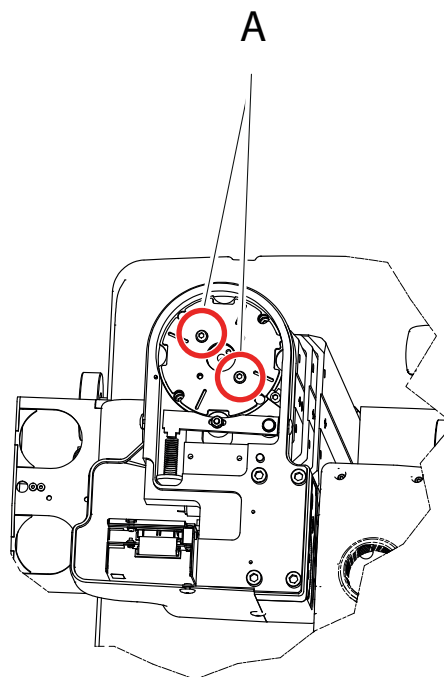

Fig. 4-98
8. Unscrew the bolts (A), see Fig. 4-98 .
10. Fasten the bolts (A) in desired position for the end stop (4 different positions are possible).